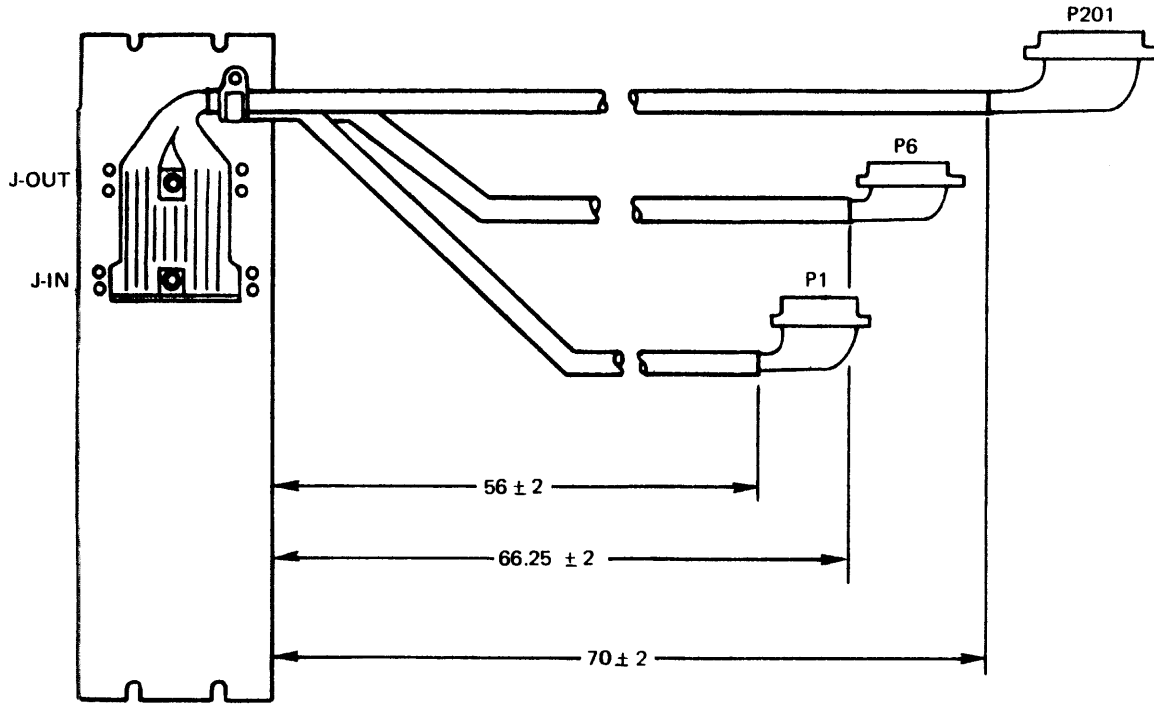

Figure 4-27. MTU Disconnect Panel, Model 1331 and 1332
①	13D00104A01	4 ft	—	DISCONNECT PANEL*
②	21D00437A11	6 ft	Δ	SIGNAL
③	21D00194A01	6 ft	Δ	SIGNAL
④	ATTACHED TO MTU	7 ft	—	AC POWER
* SEE FIGURE 4-27
The MTU Disconnect Panel is shown below in Figure 4-27: